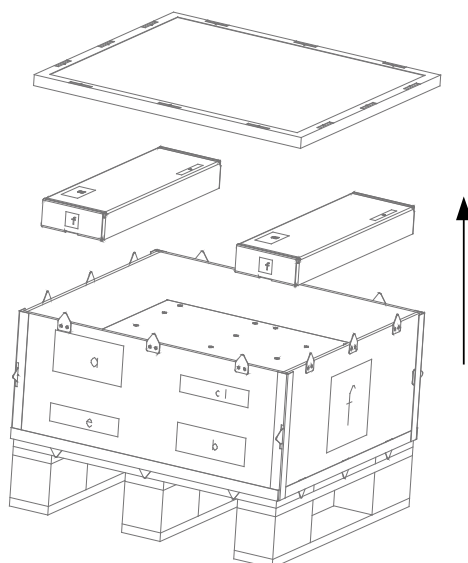

Figure 2-2 Unpacking cardboard box
2. Dismantle the cover plate of the cardboard box, and remove the UPS, as shown in Figure 2-2.